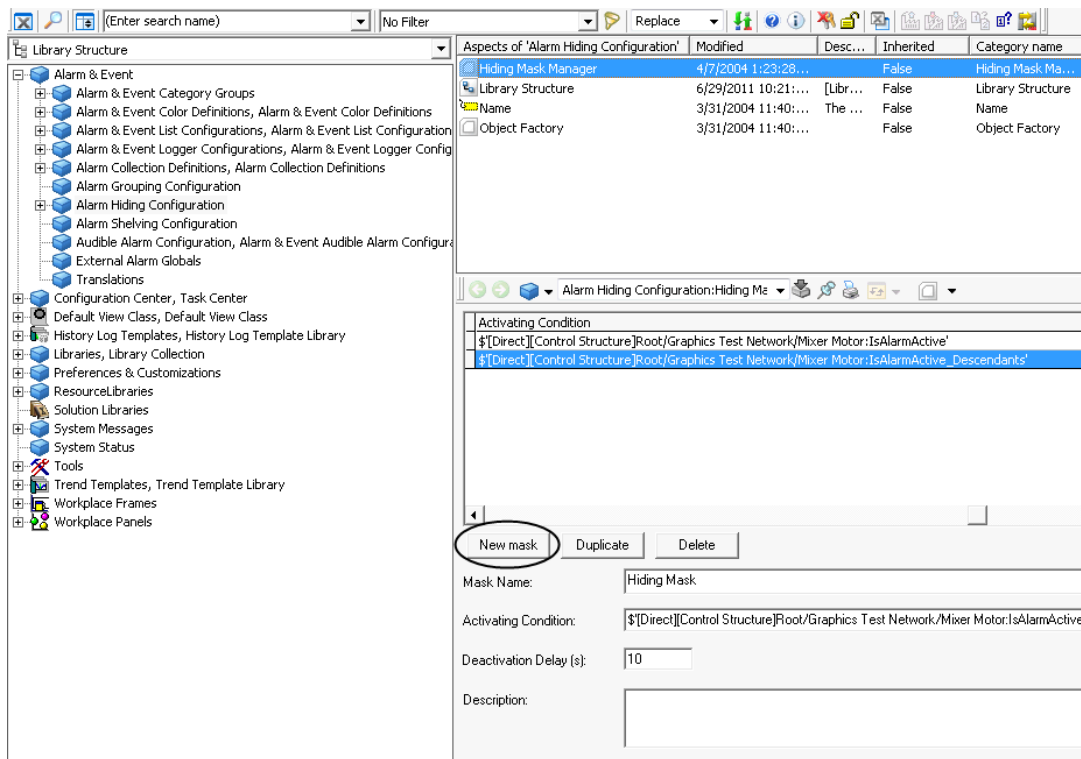

Figure 40. Alarm Hiding Configuration
1. Navigate to the **Library Structure > Alarm & Event > Alarm Hiding Configuration**, refer to Figure 40.